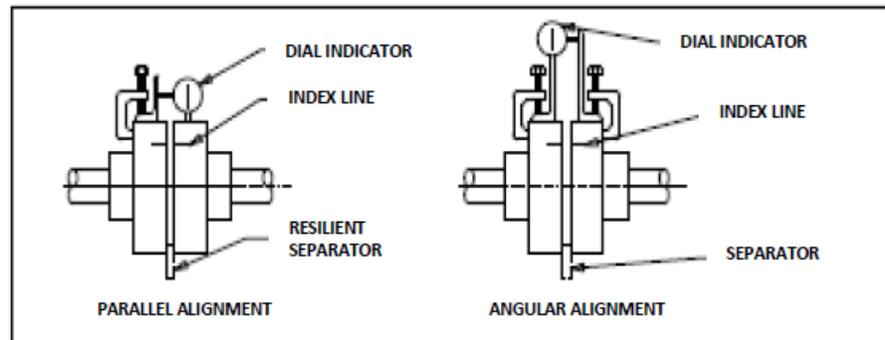

FIG. 2 TESTING ALIGNMENT, DIAL INDICATOR
3. Slowly turn both coupling halves so that the index lines match or the indicator point is always on the mark (Figure 2).